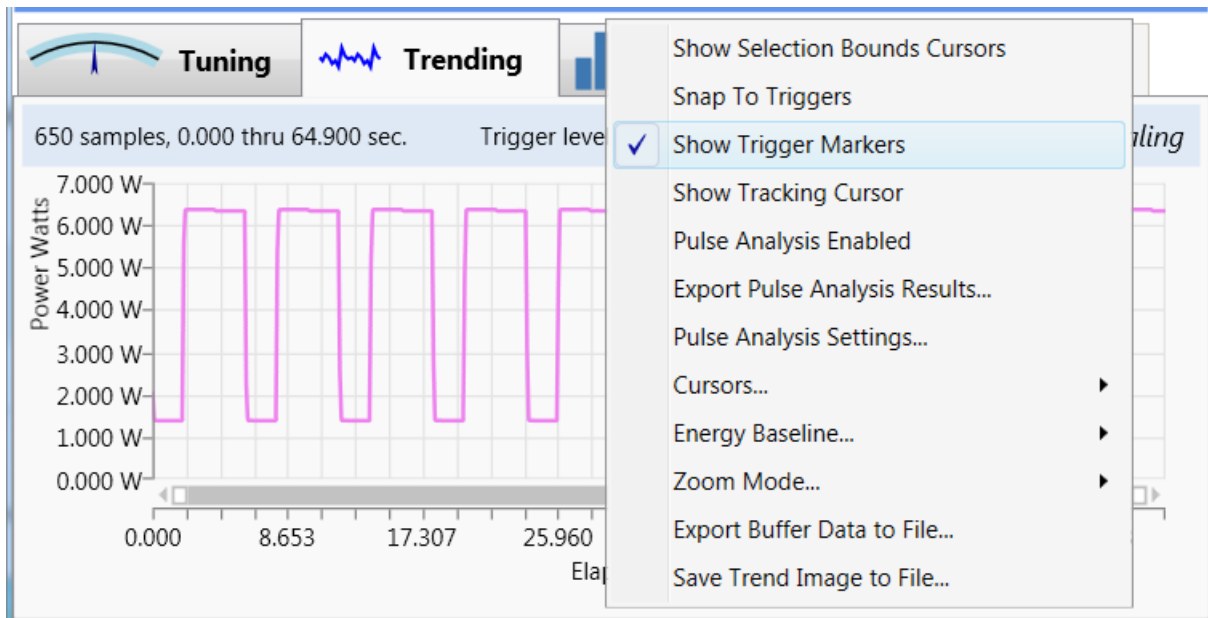

Figure 8-17. Show Trigger Markers
9. [**Trending tab**] Right-click inside the Graphics viewing panel to display a pop-up menu, shown in Figure 8-17. Select **Show Trigger Markers**. This setting confirms that the meter is auto triggering on the pulses.